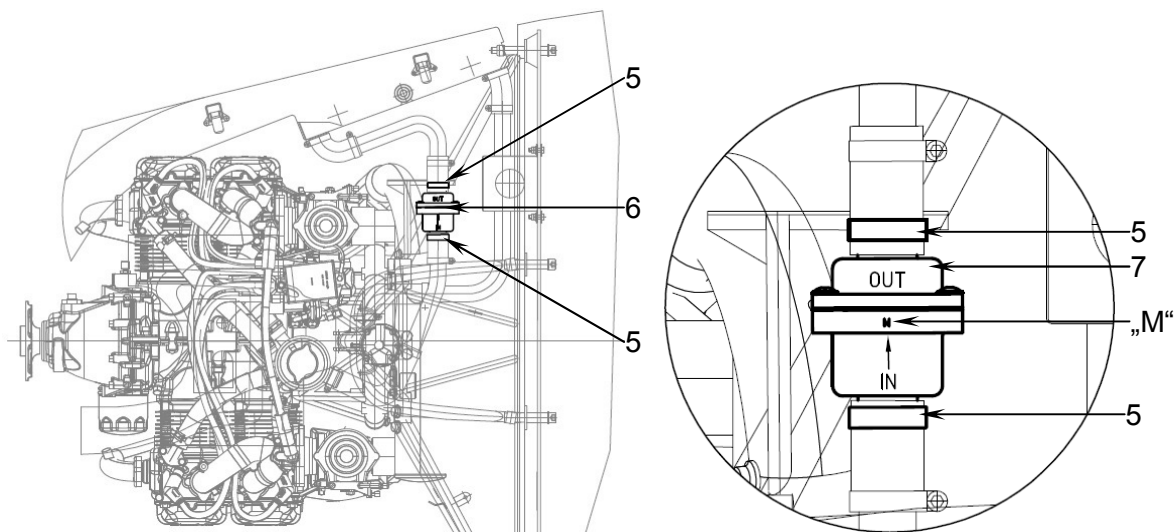

Figure 6 (Illustrative figure)
3. Water thermostat replacement (Figure 6).